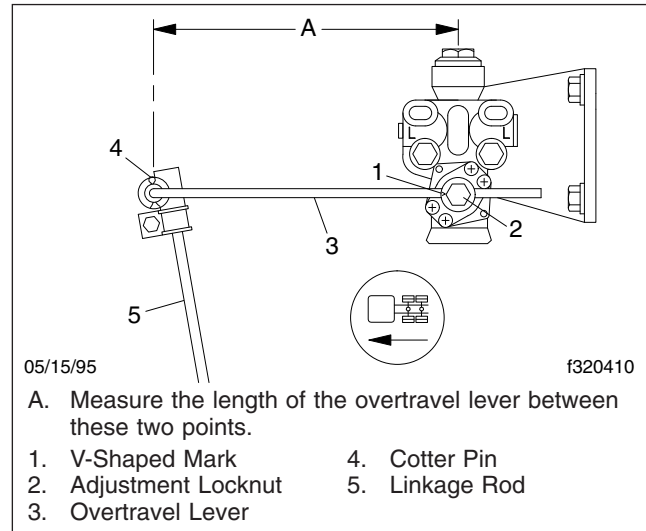

Fig. 6, AirLiner Overtravel Lever and Linkage Rod Measurement
- Check the length of the overtravel lever between its pivot points. See **Fig. 6**, Ref. A.